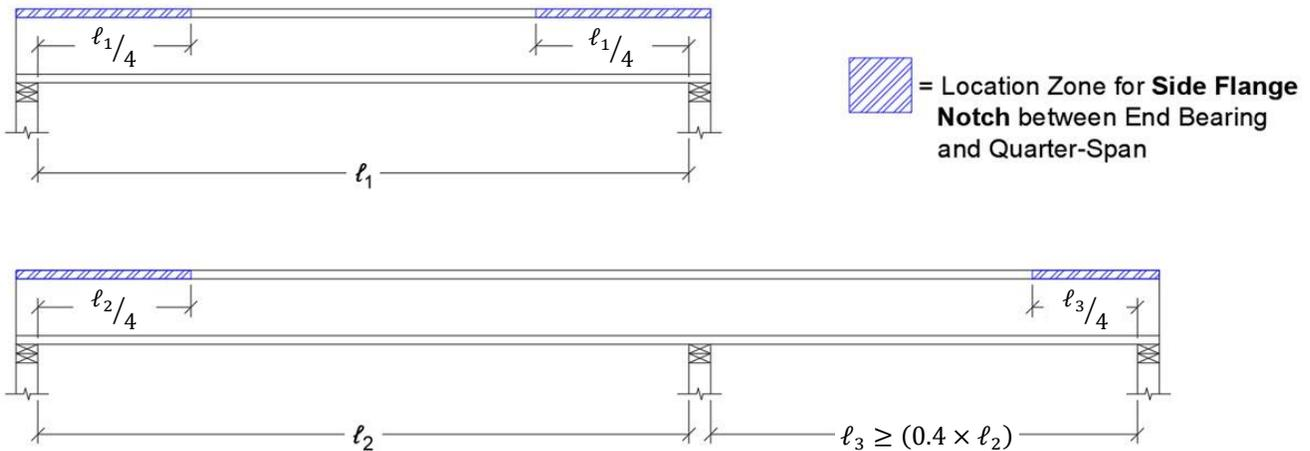

Figure 4: Location zones for a *Side Flange Notch* in simple and continuous TJI® joists (end bearing to quarter-span).
- One (1) inadvertent *Side Flange Notch* per TJI® joist (single-ply joist members only).
- *Side Flange Notch* permitted in location zones of top (compression) flange (see Figure 4 and Figure 5).
- See Figure 4 above.
[1] Confirm accordance with Conditions and Limitations on Page 1 and reference Figure 4, How to Use These Tables, and General Table Notes on Page 3.